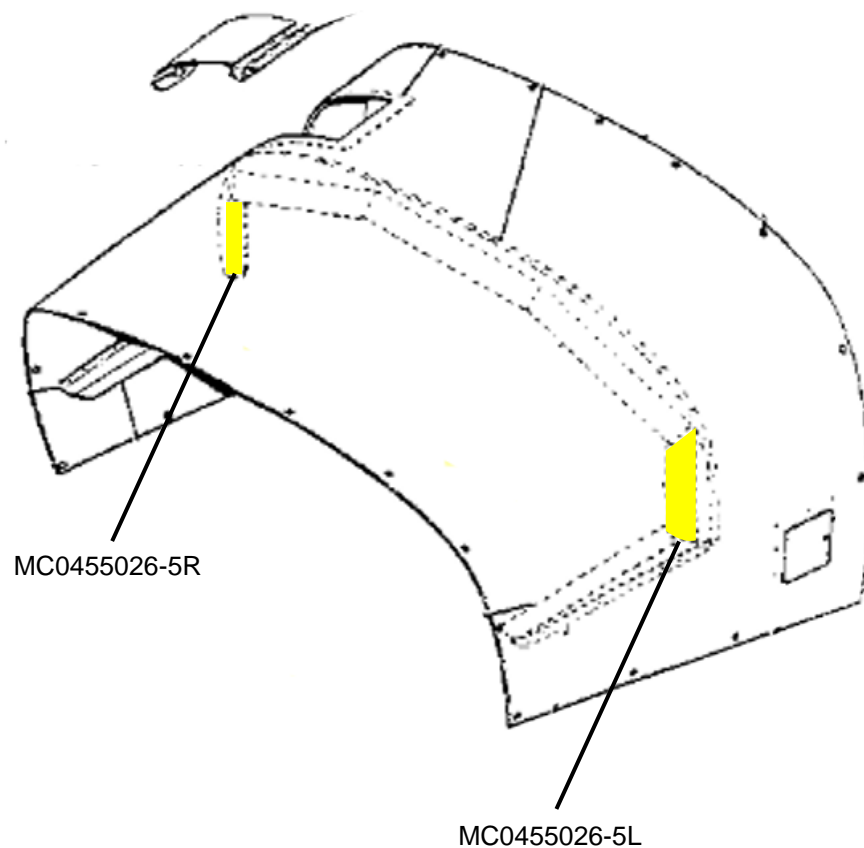

Figure 11: Special Installation Instructions for MC0455026-5L and MC0455026-5R
2. 0455026-5 will be replaced with MC0455026-5L on the left side and MC0455026-5R on the right side of the aircraft as shown in Figure 11